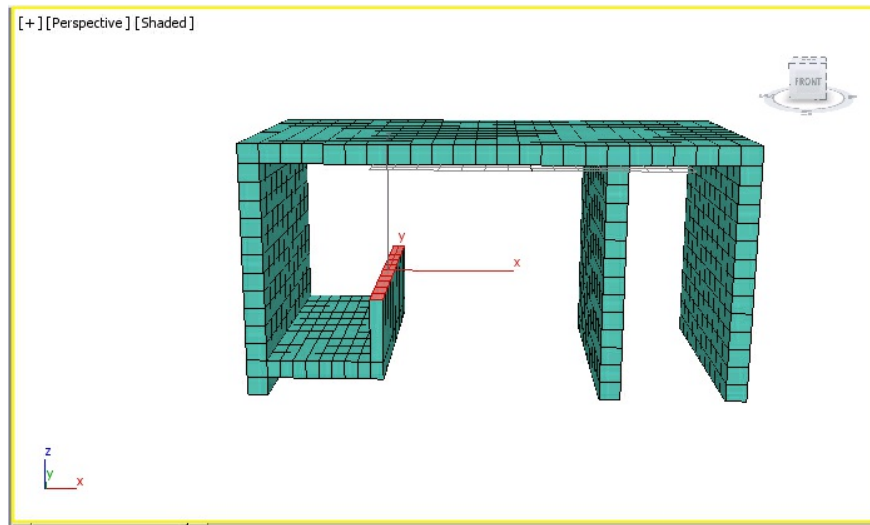

Figure 9-72 Extruded polygons of computer table
12. Choose the **Extrude Settings** button from the **Extrude** drop-down in the **Polygons** panel; the **Extrude** caddy control is displayed in the viewport. In this caddy control, set the value **30** in the **Height** spinner and choose the **OK** button; the selected polygons are extruded, as shown in Figure 9-72.